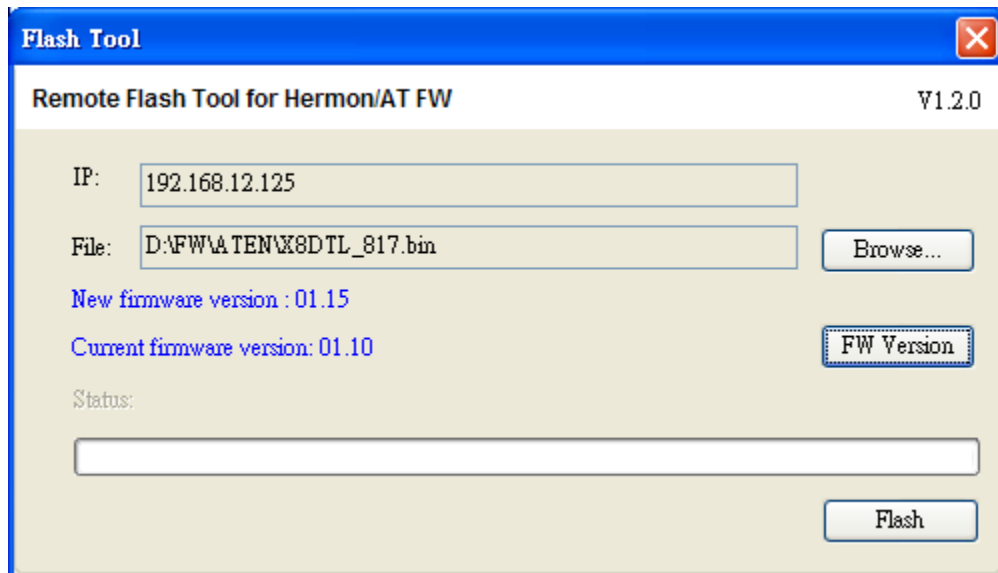

Figure E-5
5. Check new and current firmware versions. The firmware version is displayed as shown in Figure E-5.